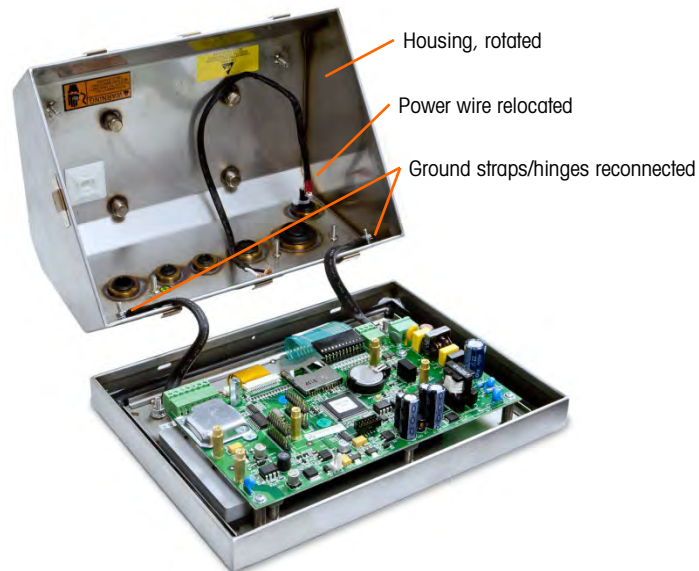

Figure 2-5: Housing Reversed
13. Carefully rotate the housing 180 degrees and use the nuts removed in step 4 to reattach the two grounding straps to the studs near the grip bushings (Figure 2-5). Tighten the two nuts.